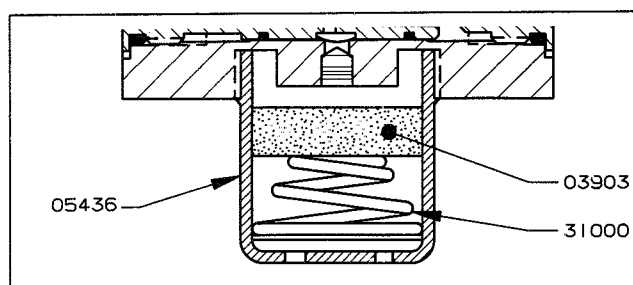

Figure 17
10.0 ALARM DISASSEMBLY/ REASSEMBLY - BOTTOM, MIDDLE OF MICROBLENDER (FIGURE 17)